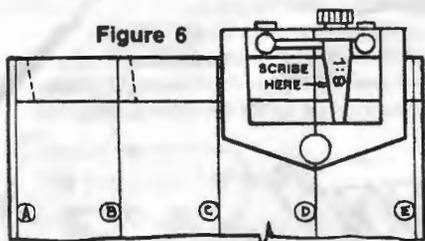

Figure 6
6) Lock the tapered blade in the right position; (Figure 6) apply the Dovetail gauge to line A and scribe along the left side of the tapered blade. Now repeat this procedure on lines B, C, and D.